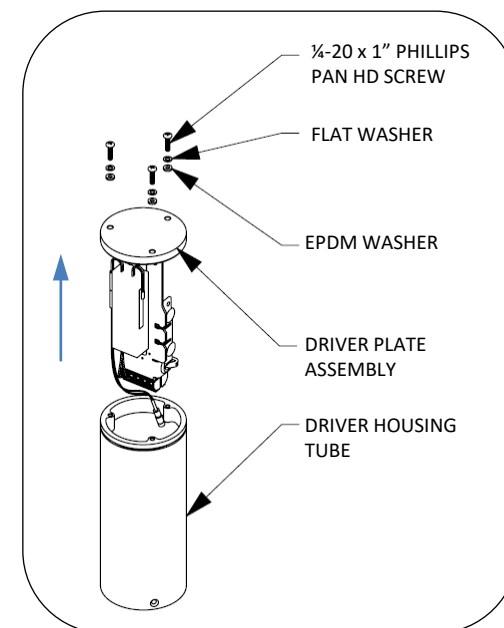

Fig. 2 – Remove driver plate assembly
2. Remove the driver plate assembly from the driver housing tube. Retain screws and washers. See Fig. 2.